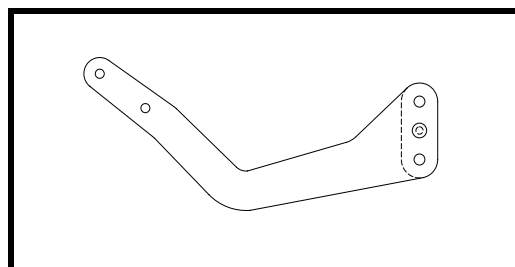

Figure 4
- ❑ Drill the spacers with a 5/32"Ø drill using the holes in the arms as a guide. Do this on a drill press to make sure that the holes are drilled straight. See Figure 4.